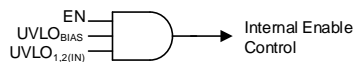

图 41. Simplified Turnon Control
Controlling when a single power supply turns on can be difficult in a power distribution network (PDN) because of the high power levels inherent in a PDN, and the variations between all of the supplies. 图 41 和 表 2 show that the LDO turnon and turnoff time is set by the enable circuit (EN) and undervoltage lockout circuits ($UVLO_{1,2(IN)}$ and $UVLO_{BIAS}$).